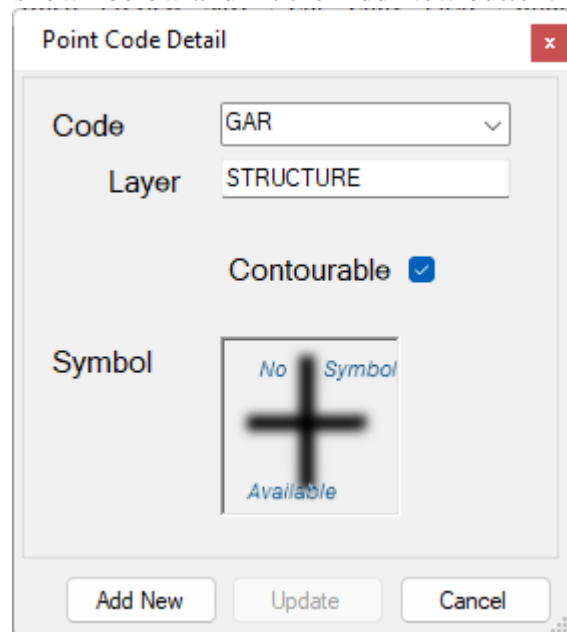

Figure 7 – Code Entry
- Snap to line 108 – 110. Confirm that the distance is 15.449 which is very close to the 15.45 shown on the survey plan. See figure 7 below.